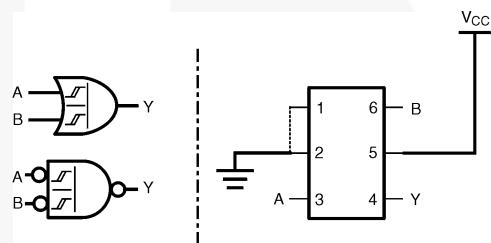

Figure 12. 2-Input OR Gate
4. CPD is defined as the value of the internal equivalent capacitance which is derived from dynamic operating current consumption (ICCD) at no output loading and operating at 50% duty cycle. (See Figure 12) CPD is related to ICCD dynamic operatic current by the expression: ICCD = (CPD)(VCC)(fin) + (ICCstatic).